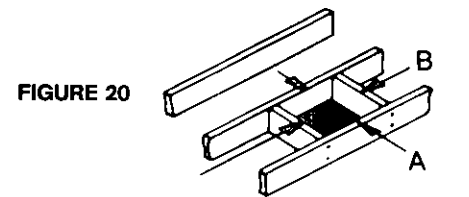

FIGURE 20
STEP 2 Frame openings for chimney route up through ceiling and roof or into outside chase. Framing must maintain adequate support. Figure 20 and 21.